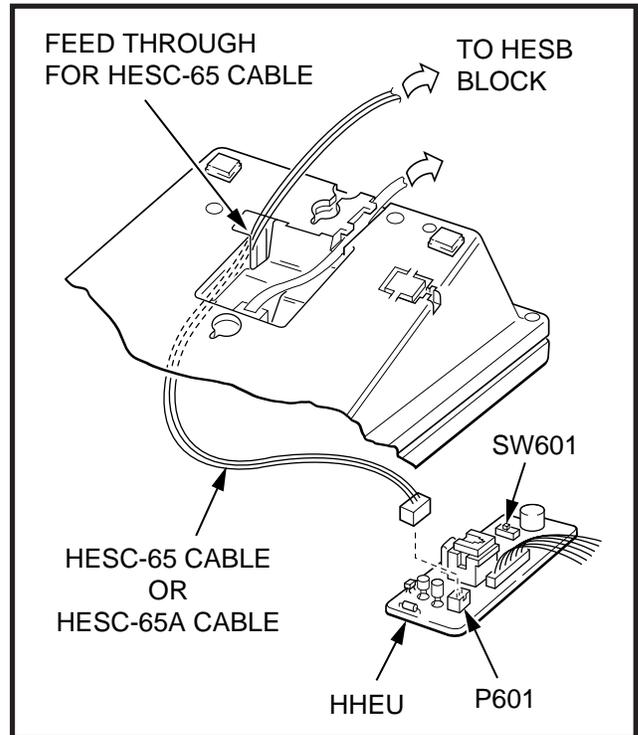

FIGURE 7-11
- 4) Connect the HESC-65A cable to **P601** of the HHEU (both HHEU1A versions and the HHEU2 have **P601**) if the Loud Ringing Bell option is required (Figure 7-11). Refer to Section **400-096-208** for HESB installation procedures.
- 4) Connect the HESC-65 or HESC-65A cable (either one) to **P601** of the HHEU if the Loud Ringing Bell option is required (Figure 7-11). Refer to Section **400-096-208** for HESB installation procedures.